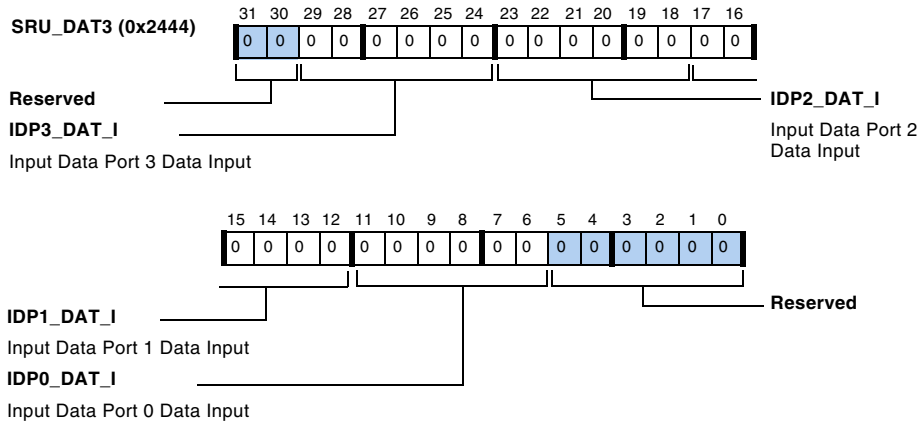

Figure A-41. SRU\_DAT3 Register
- `SRU_DAT3`, described in Figure A-41